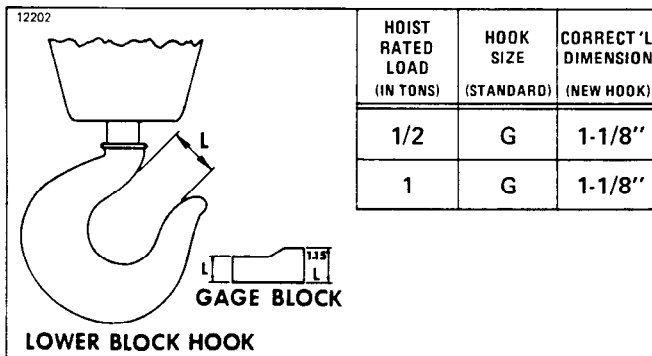

Figure 5-1. Proper Hook Opening.
- f. Check throat opening of hook. (Refer to Figure 5-1.) It is recommended that upon receipt of the hoist a measurement be made and recorded of the hook throat opening. OSHA Standards require that the hook be replaced if the throat opening exceeds 15 percent of the original opening, or if the hook is twisted more than 10 degrees from the unbent plane. A gage block, properly identified to the hoist, similar to the one shown in Figure 5-1, is suggested to be made for each hook for use in these measurements.